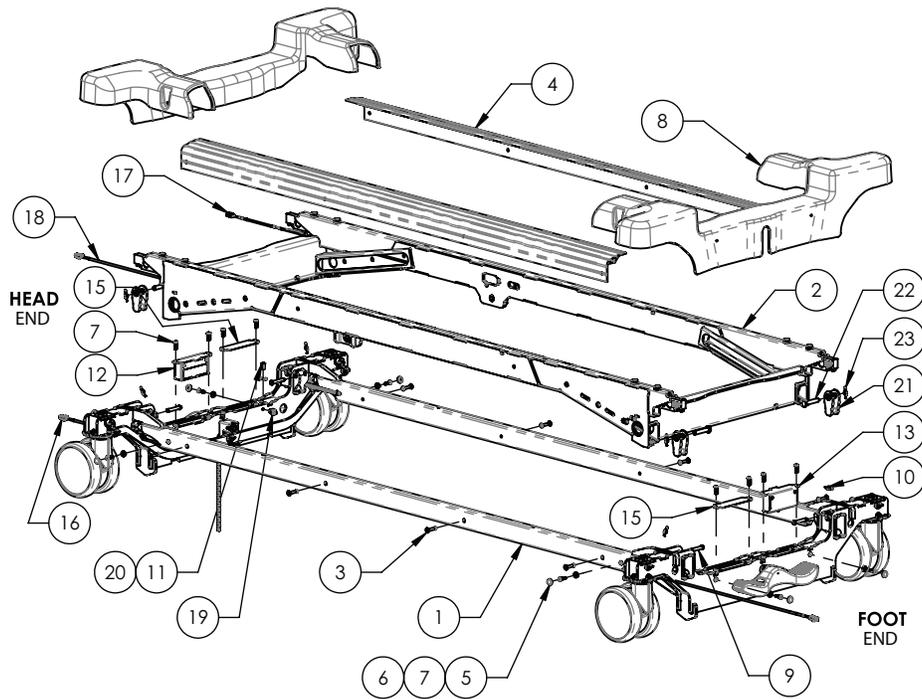

Figure 36 – Load cell assembly replacement
5. Using a small flat head screwdriver, remove and save the four caster cover screw caps (6) (Figure 36).
6. Using a #2 Phillips screwdriver, remove and save the four screws (7) and washers (5) that secure the caster cover (8) to the base frame weldment (Figure 36). Remove and save the caster cover.
8. Using needle nose pliers, remove and save the rue clip (23) and pin (22) from the top of the load cell linkage (21) (Figure 36).
11. Using a #2 Phillips screwdriver, remove and save the two screws (7) that secure the inspection cover (15) to the base frame weldment (Figure 36). Remove and save the inspection cover.
12. Using a #2 Phillips screwdriver, remove and save the two screws (7) that secure the scale board assembly (12 (head end), 13 (foot end)) to the base frame weldment (Figure 36). Remove and save the scale board assembly.